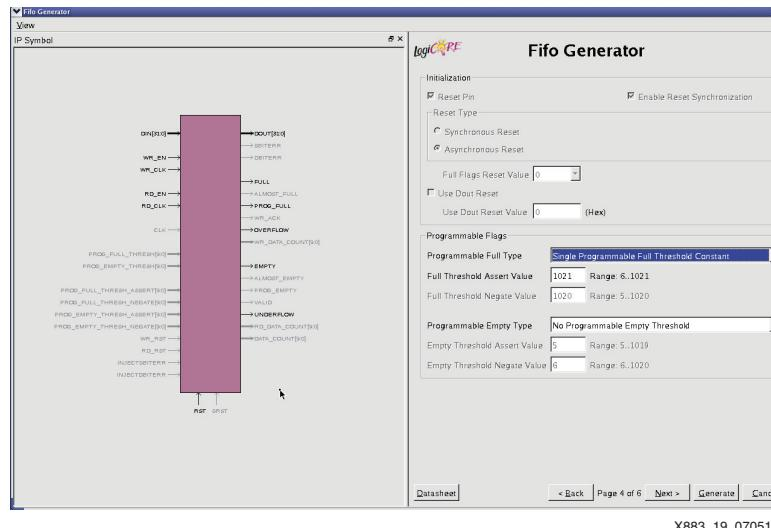

Figure 19: FIFO Generator Wizard, Page 4
20. Select **Single Programmable Full Threshold Constant** in the Programmable Full Type pull-down menu. Click **Generate**. The result should look like Figure 19.